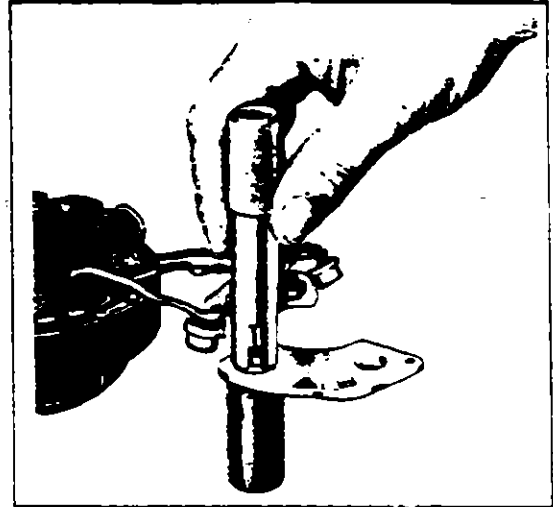

FIGURE 9-27j. INSTALLATION OF RECTIFIER
b. Carefully install the rectifiers in the slip ring end head or rectifier mounting plate by supporting the unit and using the special tools illustrated in Figure 9-27j.